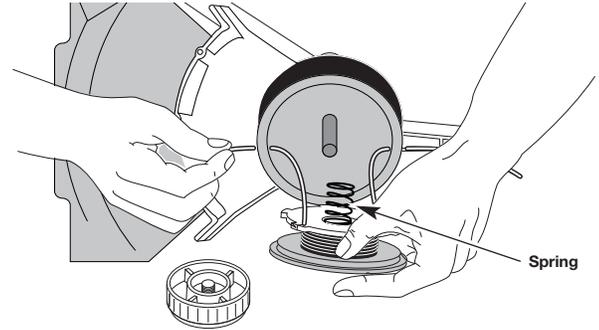

Fig. 34
- Insert the ends of the line through the eyelets in the outer spool and place inner reel with spring inside the outer spool (Fig. 34). Push the inner reel and outer spool together. While holding the inner reel and outer spool, grasp the ends and pull firmly to release the line from the holding slots in the reel.
- Insert the ends of the line through the eyelets in the outer spool (Fig. 34).